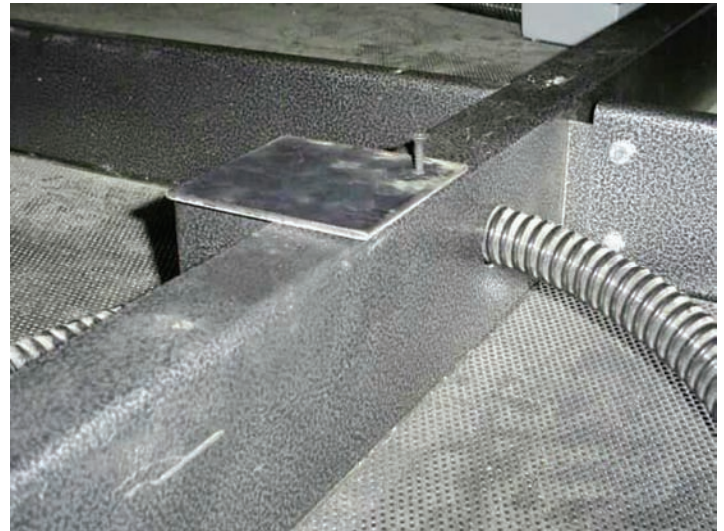

Figure 39
15. Attach and secure the metal cover on top of the metal post (Figure 39). We recommend you apply silicone sealant around the edge of the cover to prevent possible water damage.